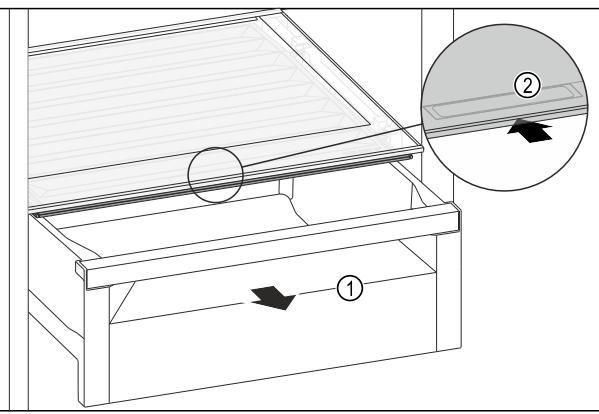

Fig. 86
► Pull out the drawer Fig. 86 (1).
► Grip the handle recess Fig. 86 (2) on the lid while pulling the lid backward at the same time.